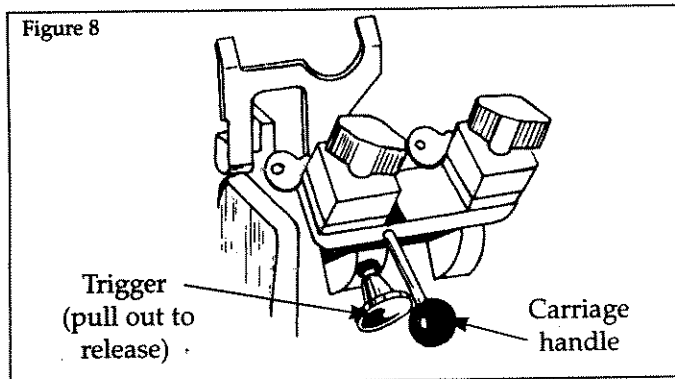

Figure 8
5. Push down on the carriage handle while pulling out on the carriage trigger (See Fig. 8).